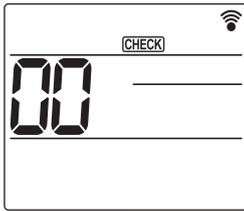

Fig. 7-7
(1) Turn on the power to the unit at least 12 hours before the test run.
(2) Press the **MENU** button for 5 seconds. (Fig. 7-7)